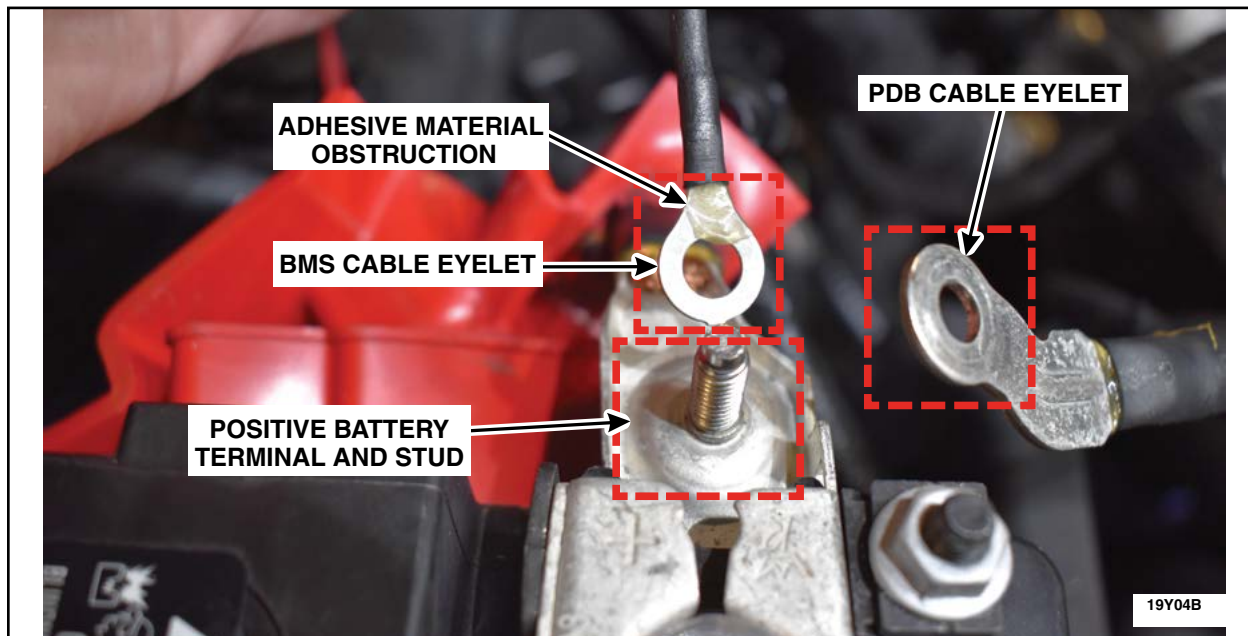

FIGURE 2
4. Thoroughly inspect the positive battery terminal fastener joint (PDB cable eyelet, BMS cable eyelet and positive battery terminal with stud) for excessive heat shrink tubing adhesive. Inspect the highlighted areas including both the top and bottom surfaces of the BMS and PDB cable eyelets. See Figure 2.